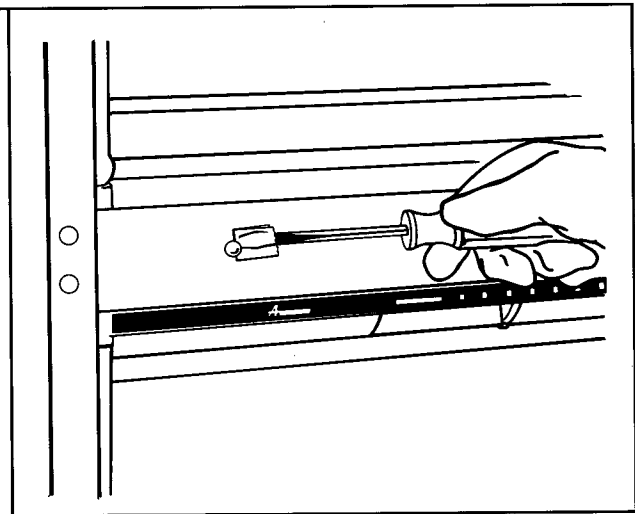

Figure 40
- a. Remove three plastic hole covers head screws from **center left side** of cabinet and insert them in holes previously occupied by Phillips head screws on **center right side**. See Figure 40.